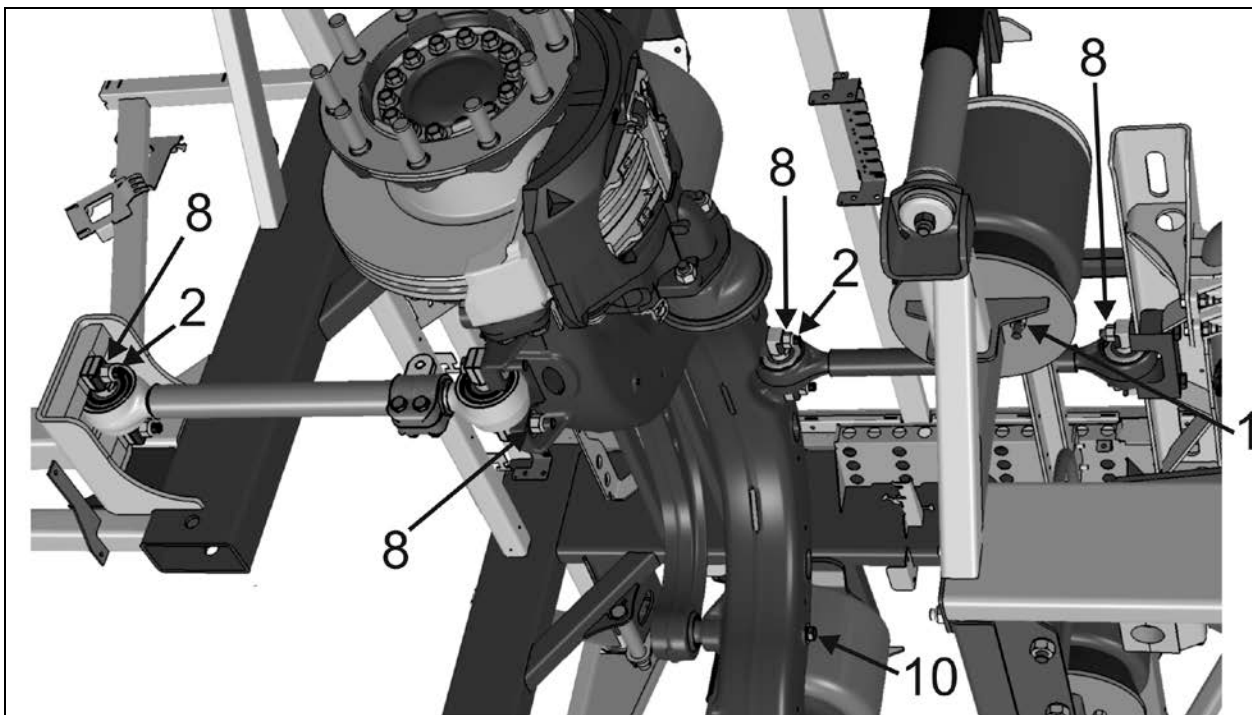

FIGURE 58: TORQUE SPECIFICATIONS – TAG AXLE
1. Before turning on system air pressure, release jam nut (2, Fig. 58) then turn regulator adjustment counterclockwise until load is removed from the regulating spring.
5. Tighten jam nut (2, Fig. 58) to lock pressure setting.
1. Shut off inlet pressure and reduce pressure in inlet and outlet lines to zero. Turn regulator adjustment (1, Fig. 58) counterclockwise until all load is removed from regulating spring. Regulator can be disassembled without removal from air line.
1. Lubricate O-ring (14 and 16, Fig. 58), valve stem (13, Fig. 58), tip of adjusting screw (1, Fig. 58), and the outer circumference and both sides of the thrust washer (9, Fig. 58) with a light coat of good quality O-ring grease.